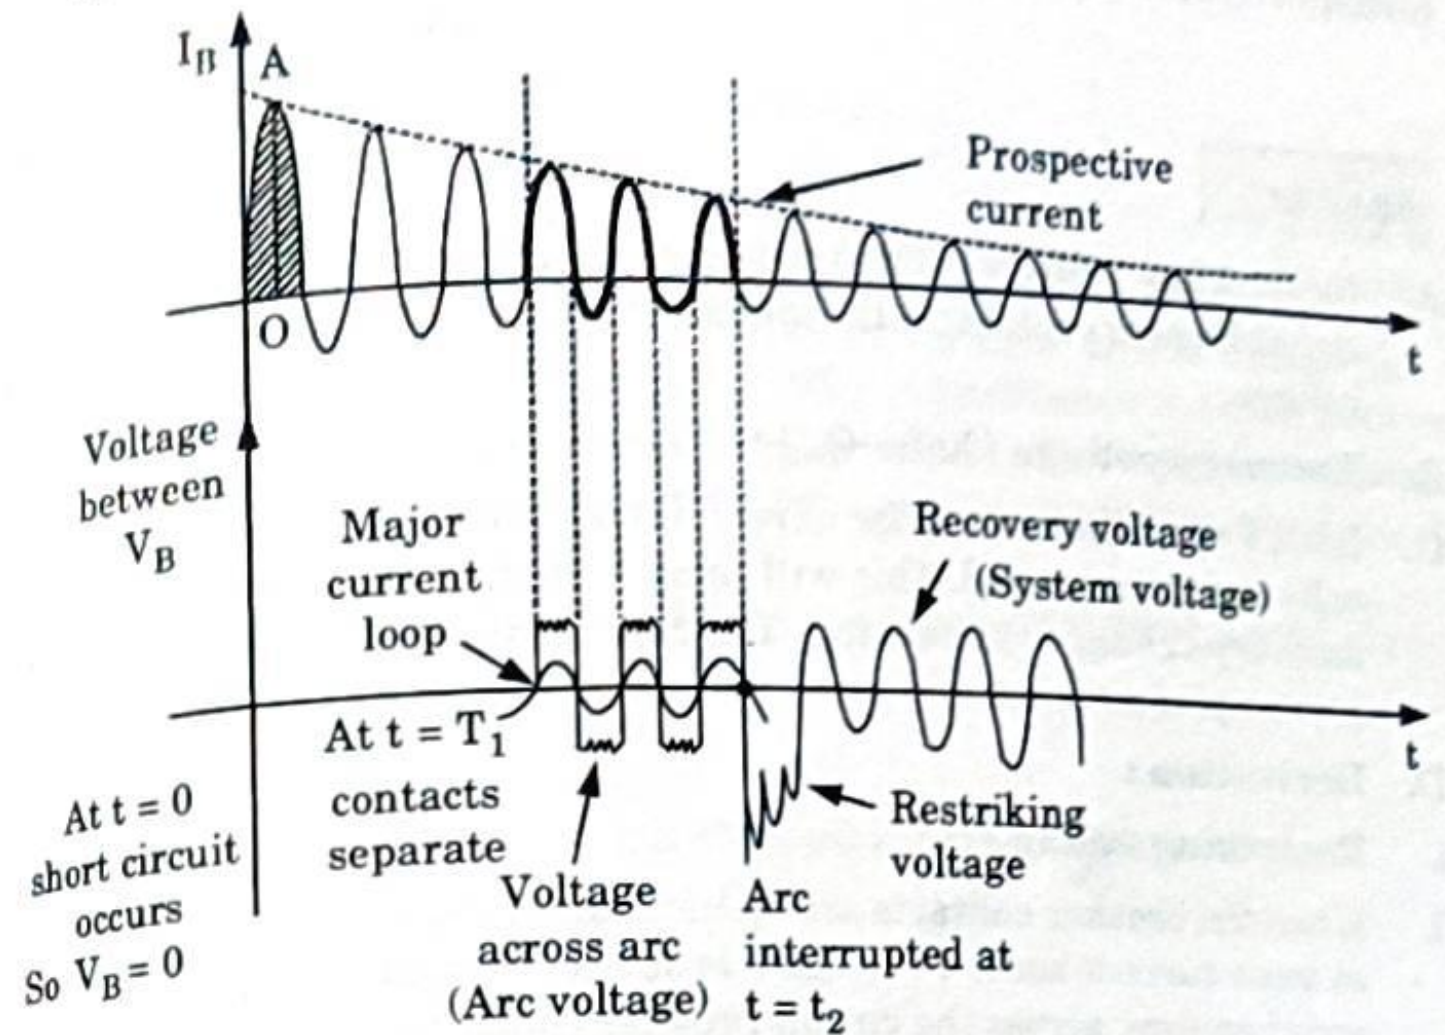

Fig. 4.6.2. Current and voltage during fault clearing.
- Under this condition the B phase current will have maximum DC component and its current waveform will be unsymmetrical about normal zero axis. This is shown in the Fig. 4.6.2.